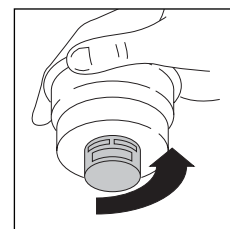
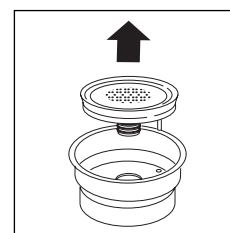

fig. 28
fig. 29
- Unscrew the cap of the frother by rotating in the direction indicated by the arrow on the cap (fig. 28). Remove the frother from the container by pushing it from the cap end (fig. 29).